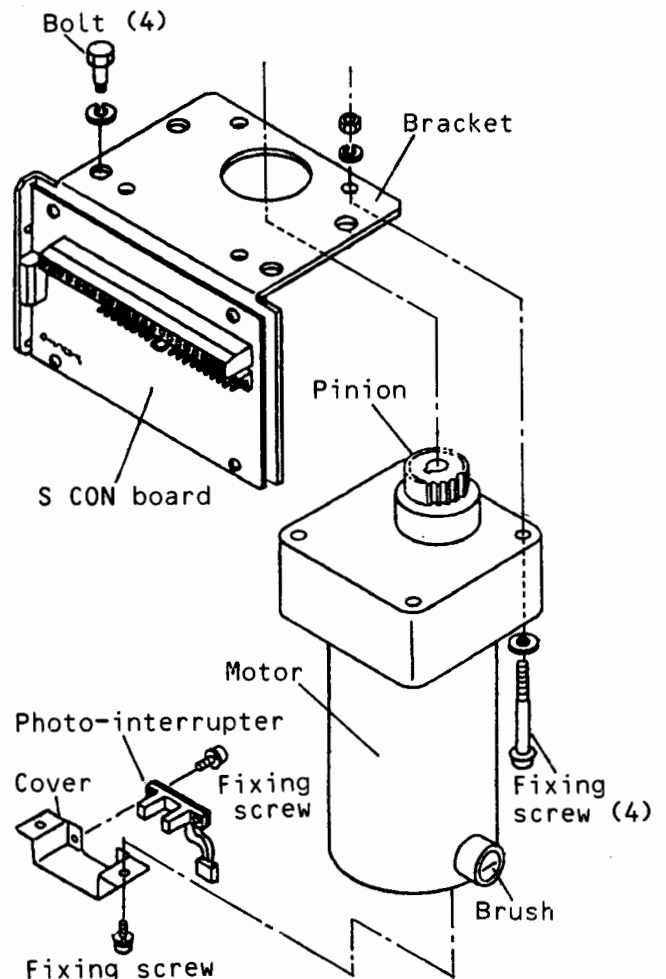

Fig. 5.1.4 Replacement of Motor
- (2) Referring to Fig. 5.1.4, unscrew both sides motor brushes and replace with new ones.